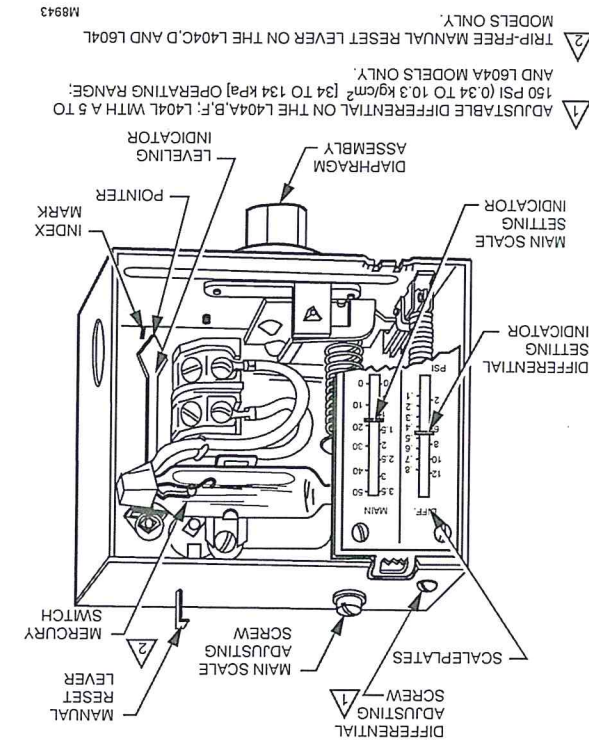

Fig. 11. Setting a Pressuretrol® Controller.
A controller with a mercury switch must be accurately leveled for proper operation. It is level when the leveling indicator (see Fig. 11) hangs freely with its pointer directly over the index mark inside the back of the case. Level the controller by carefully bending the steam trap (siphon loop).
Adjust the main scale set point for the desired operating pressure by turning the main scale adjusting screw (Fig. 11) on the top of the case until the main scale setting indicator is at the desired value. On an L404A, B, F with a 5 to 150 psi (.3 to 10.3 kg/cm² [34 to 1034 kPa]) operating range, or an L604A, adjust the differential setting by turning the differential adjusting screw (Fig. 11) until the differential setting indicator is at the desired value. L404C, D and L604L are manual reset models: see the next paragraph. The scaleplates are marked psi and kg/cm².
The L404C breaks, the L404D makes, and the L604L makes R-V and breaks R-B when the pressure rises to the main scale setpoint. They will not automatically return to their former positions. To reset one of these controllers, wait until the pressure falls to the set point minus the differential (Fig. 10). Then depress the manual reset lever (Fig. 11) and release it. The controller will not be reset until you release the manual reset lever. This prevents the controller from becoming an automatic-reset device if the reset lever is stuck, held in, or tied down.
7. If the controller is operating properly, turn the main scale adjusting screw (Fig. 11) until the main scale setting indicator is at the desired set point.
2. Turn the main scale adjusting screw (Fig. 11) until the main scale setting indicator on the controller corresponds to the boiler pressure gauge reading.
The controller was carefully calibrated during manufacturing and should not require recalibration. Most calibration errors are caused by improper leveling. The controller should be level when the pointer on the leveling indicator is directly over the index mark (Fig. 11). In some cases, the leveling indicator may not be accurate enough. The pointer may be over the index mark, but the controller still may not be operating within the tolerance of its scale setting. In this case, carefully bend the steam trap (siphon loop) until the controller switches properly.